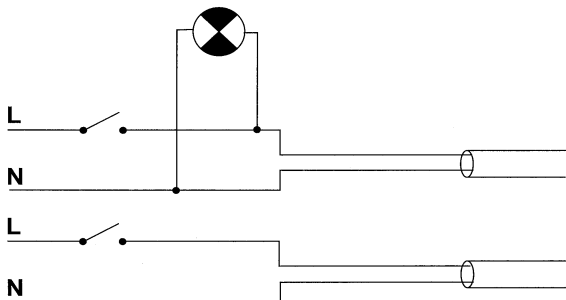

Fig.2
- Conectar según el esquema fig.2
ELECTRICAL CONNECTION (fig. 2)
- Ensure that the voltage and frequency of the electrical supply match the information stated on the Data Plate of the unit (maximum recommended tolerance of Voltage (V) and Frequency (Hz) $\pm 5\%$).
- Connect according to Fig. 2